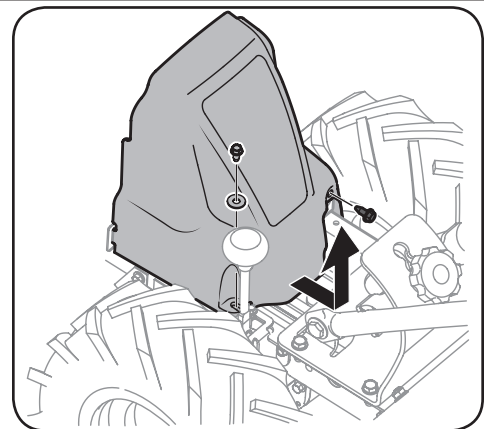

Figure 5-2
- Remove the hex washer screw (1/4-20 x .500) and flat washer (.28 x .74 x .063) from the left side of the belt cover and the hex washer screw (1/4-20 x .500) from the right side of the belt cover. Remove the belt cover. See Figure 5-2.